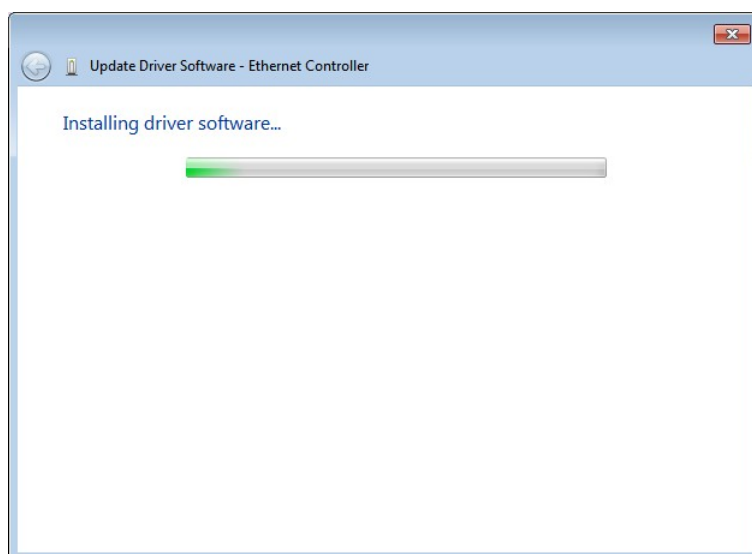

Figure 6-18: LAN Driver Installation
**Step 11:** Driver Installation is performed as shown in Figure 6-18.